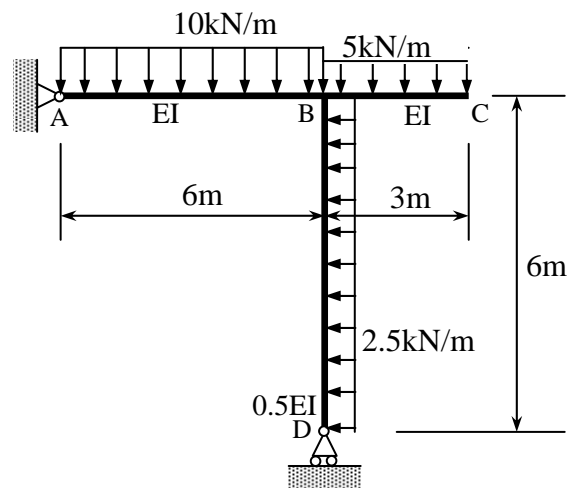

Figure 1
- b) Figure 1 shows a frame with pin and roller supports at A and D, respectively. The frame is subjected to: a uniformly distributed load of 10kN/m along AB, a uniformly distributed load of 5kN/m along BC and a uniformly distributed load of 2.5kN/m along the vertical member BD. EI for members AB and BC are the same, while that of member BD is 0.5 times that of members AB and BC. Compute the vertical displacement of point C by using method of virtual work.